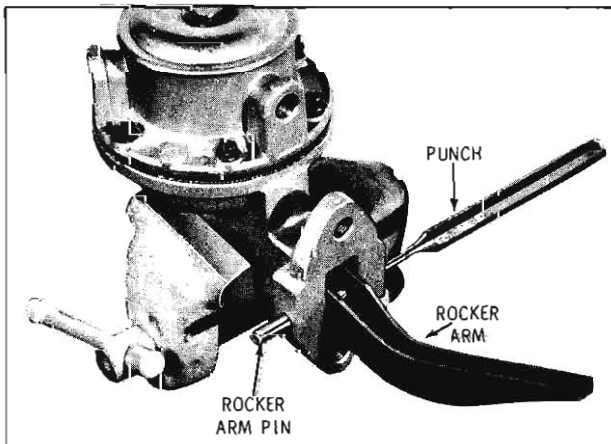

Fig. 3-481 Removing Rocker Arm Pin
3. Drive out the rocker arm pin using a small punch, then remove the arm. (Fig. 3-481)